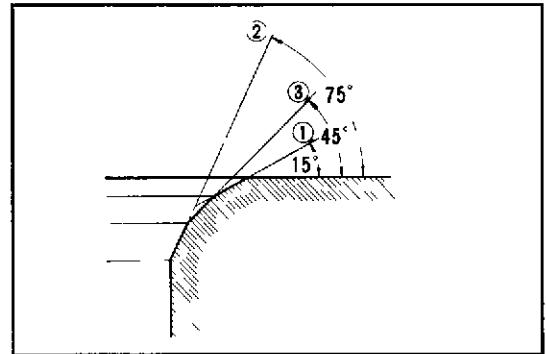

Fig 2.40 Seat Parts Correction Order
- b) The order of applying seat cutter is illustrated in Fig 2.40. First apply 15° cutter, next 75° cutter and finally correct the contacting surface width by applying lightly the 45° cutter.